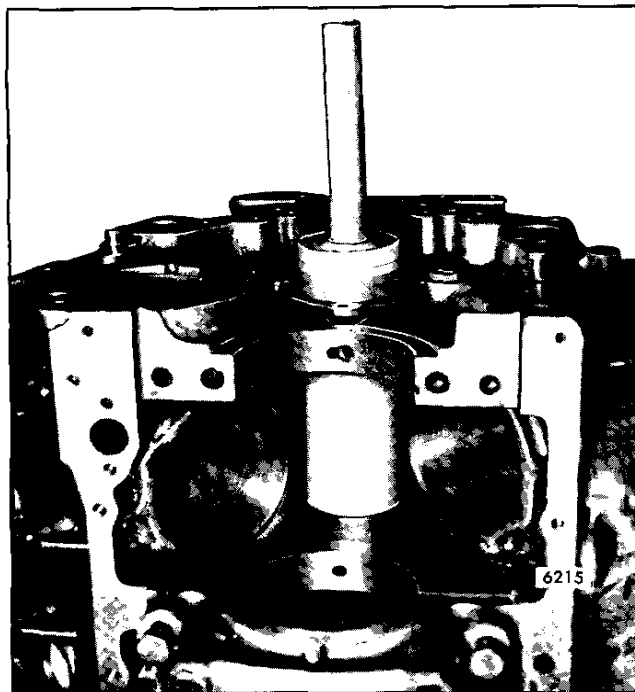

Fig. 4 - Installing End Bearing
6. Using J 29141-3 Driver and J 29141-4 End Bearing Installer (Fig. 4), drive the No. 1